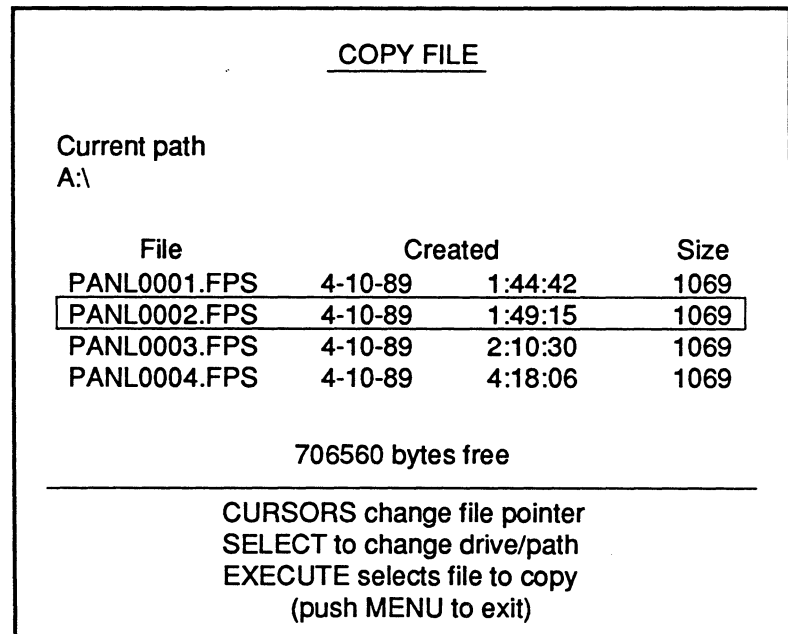

Figure 2 - Copy File Screen
1. Execute DELETE FILE. The Delete File screen appears (Figure 2).